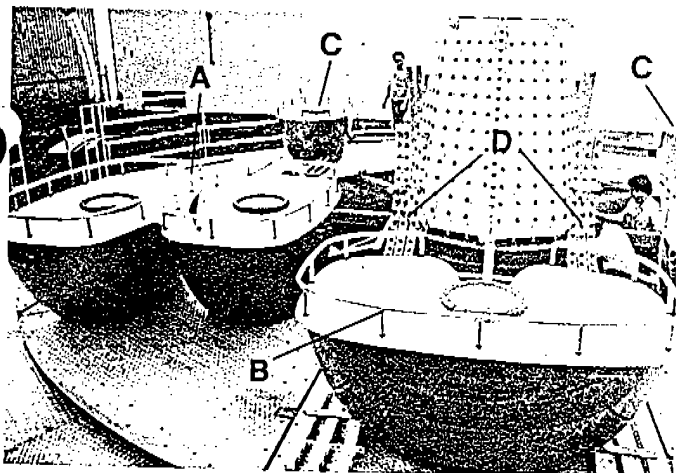

Fig. 59
- The entrance areas of the two cars at the rear of the ride face in toward each other (c). (Fig. 59)
- a. The removable platform support braces (d) are stored on the rotating platform, with three on either side of the center front car. (Refer to Fig. 59)